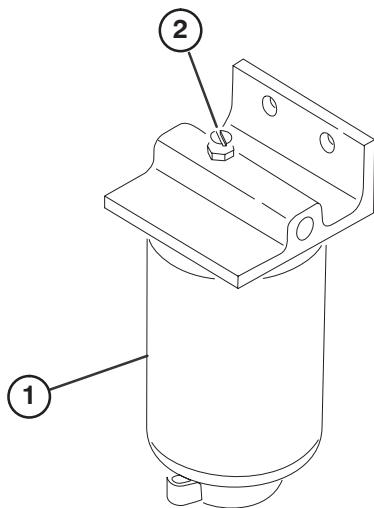

Figure 14
3. Open vent plug on the fuel filter/water separator (Fig. 14).